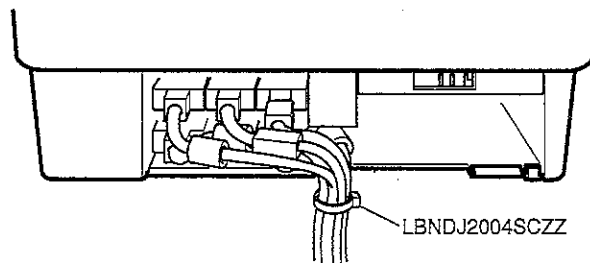

Fig. 9
- 3) The picture below shows how to pull out the cables from the center. (Fig. 9)